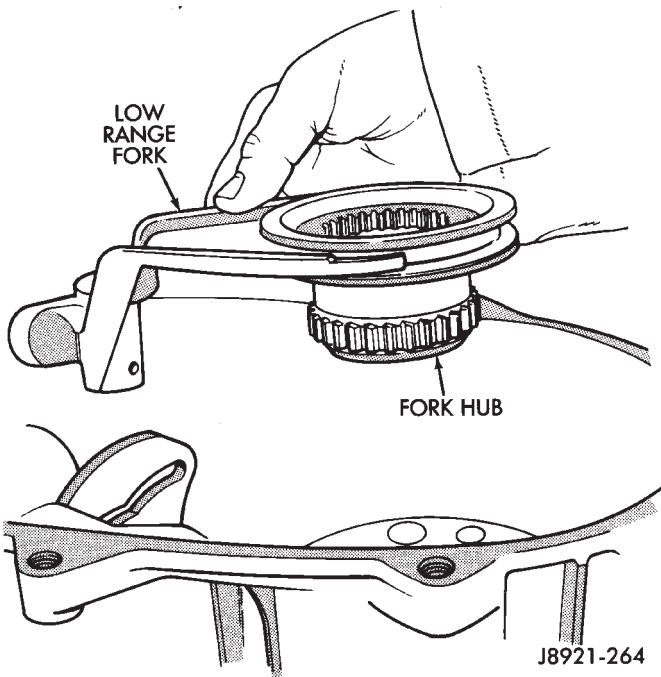

Fig. 36 Low Range Fork And Hub Removal
- (14) Remove low range fork and hub (Fig. 36).